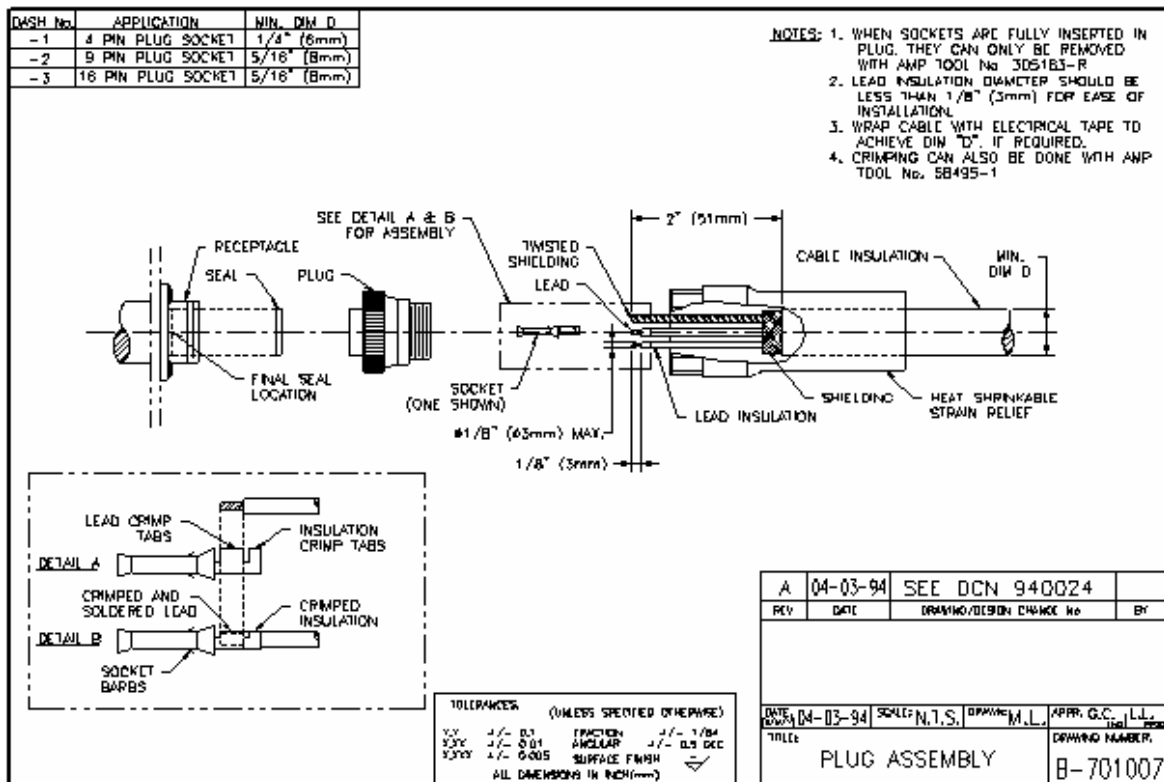

Figure 1 – Plug Assembly
- c) Strip off 2" (51 mm) of cable insulation as shown in the Figure 1. Take care not to cut the shielding.
- a) Place the lead into the socket as shown in Figure 1, Detail A.
- e) Re-check the wiring diagram to ensure the correct socket locations. Also ensure that the heat shrink strain relief is oriented correctly as shown in Figure 1.
- h) Confirm that the cable insulation diameter is larger than the diameter indicated in the table of Figure 1. If the cable diameter is less than the dimension shown, the cable end may be wrapped with electrical tape. This will ensure that the strain relief adequately supports the cable once heat shrinking is done.